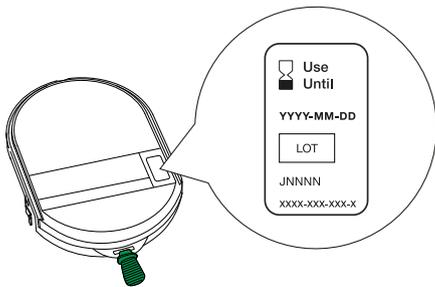

Figure 3. Expiration Date
1. Check the expiration date (year-month-day) on the rear of the Pad-Pak (see Figure 3). If the expiration date has passed, do not use and immediately replace the expired Pad-Pak.